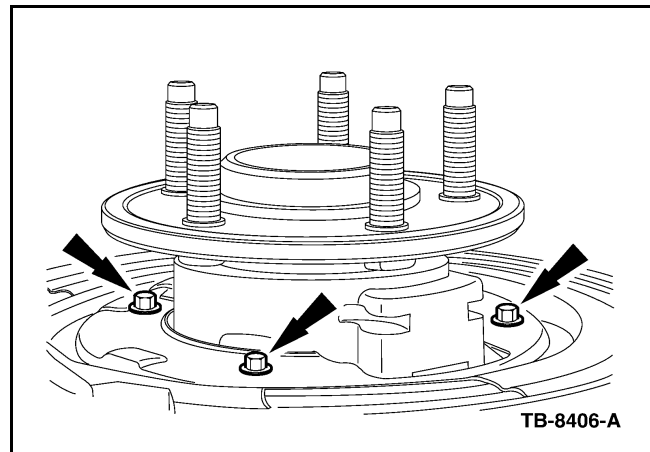

Figure 4 - Article 05-25-8
12. Remove the three (3) brake disc shield-to-wheel knuckle bolts (Figure 4). To install, tighten to 10 lb-ft (13N•m)